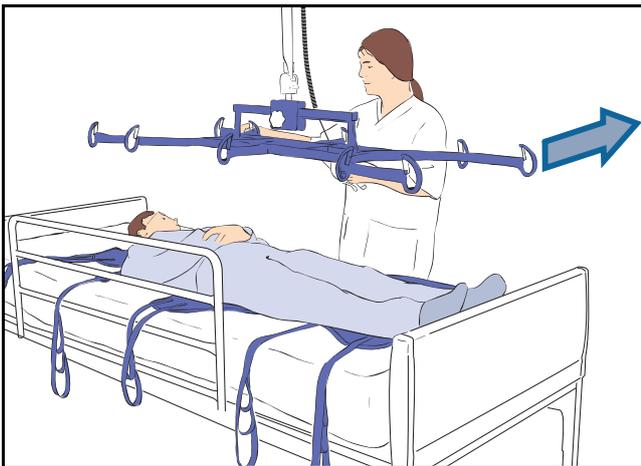

Fig. 17
- 12) Move frame away from the patient (see Fig. 17).